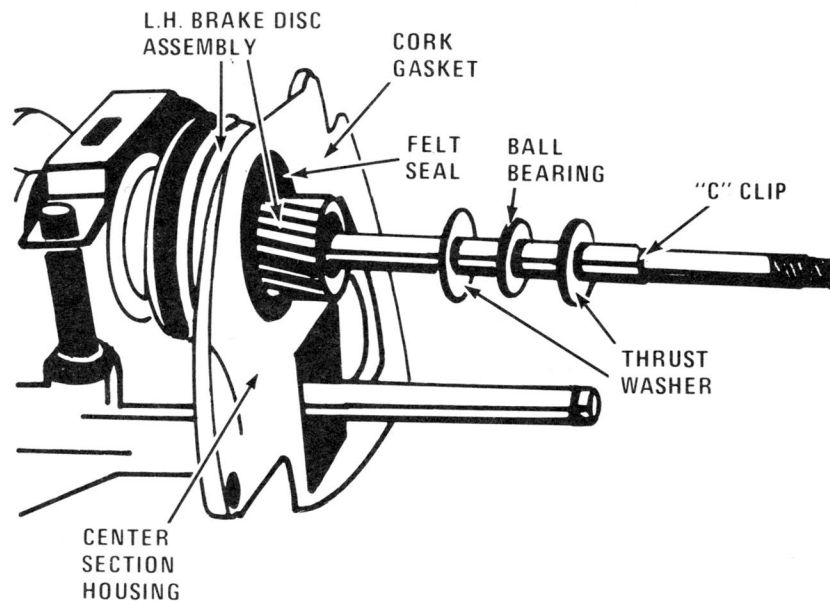

Fig. 12
- h. Remove "C" clip, thrust bearing, and 2 thrust washers from main drive shaft. NOTE* Thrust bearing should contain 5 bearing balls. Also remove and inspect cork gasket and felt dust seal from LH Brake Disc Assembly (Fig 12). Replace Felt Seal with new one and cement in place to Center Section Housing using 3M 847 adhesive.